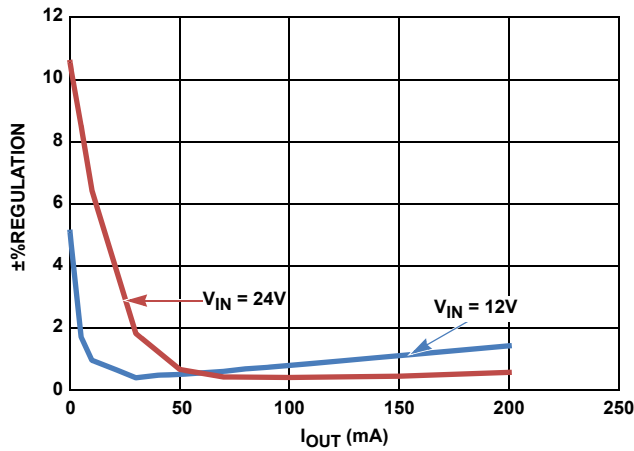
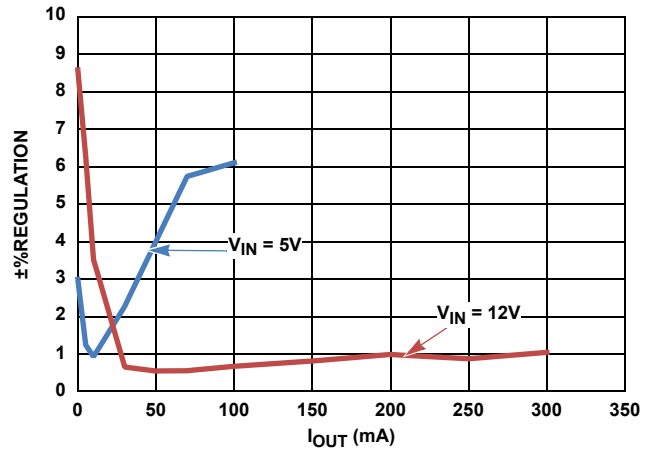

FIGURE 10.  $V_{OUT} = 5V$ , %REGULATION vs  $I_{OUT}$
FIGURE 11.  $V_{OUT} = 3.3V$ , %REGULATION vs  $I_{OUT}$
- Continuous output current up to 300mA (refer to Figures 10 and 11)
The curves in Figure 10 indicate the secondary output voltage regulation versus the load applied in the secondary output, without any load on the primary output for VOUT = 5V, at different input voltages. The curves in Figure 11 indicate the secondary output voltage regulation versus the load applied in the secondary output, without any load on the primary output for VOUT = 3.3V, at different input voltages.